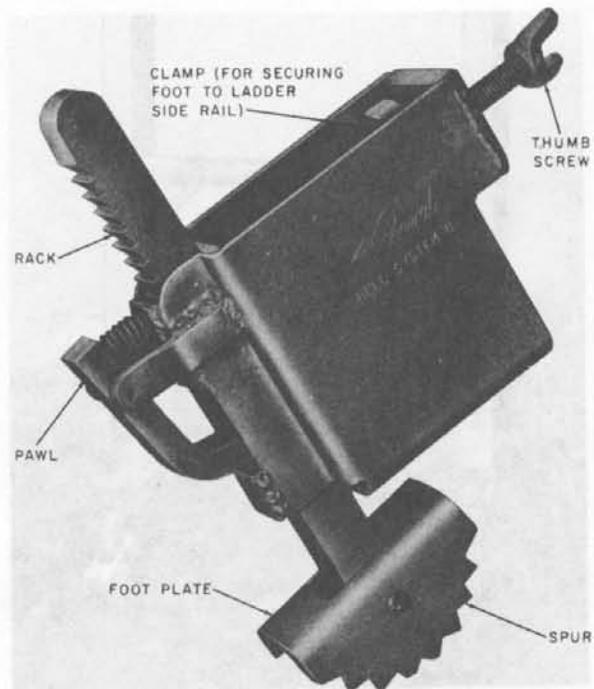

Fig. 6—B Ladder Foot
5.03 The *B Ladder Foot* (Fig. 6) consists of a pivoted semiwheel spur and plate attached to the lower end of a movable rack. The rack with its spring-loaded pawl is mounted on a housing enclosing a screw-operated clamp for attaching the foot to the lower end of a side rail of an extension ladder. The foot can be used on ladders with or without spurs.